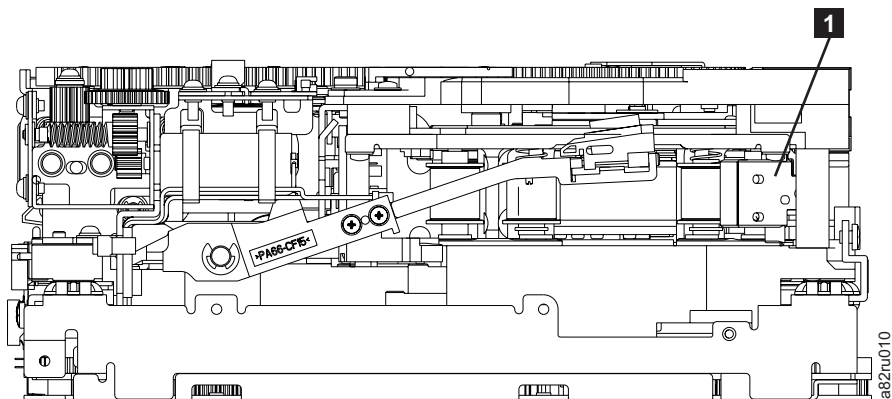

Figure 168. Leader Block Assembly (LBA)
- \_\_\_ 7. Rotate the threader motor worm gear ( **4** in Figure 167 on page 281) to turn the threader mechanism gear ( **6** in Figure 167 on page 281) counterclockwise. This moves the LBA out of the cartridge and past the read/write head. Stop this rotation when the LBA is near the tape guide roller nearest the rear of the drive ( **1** in Figure 168).